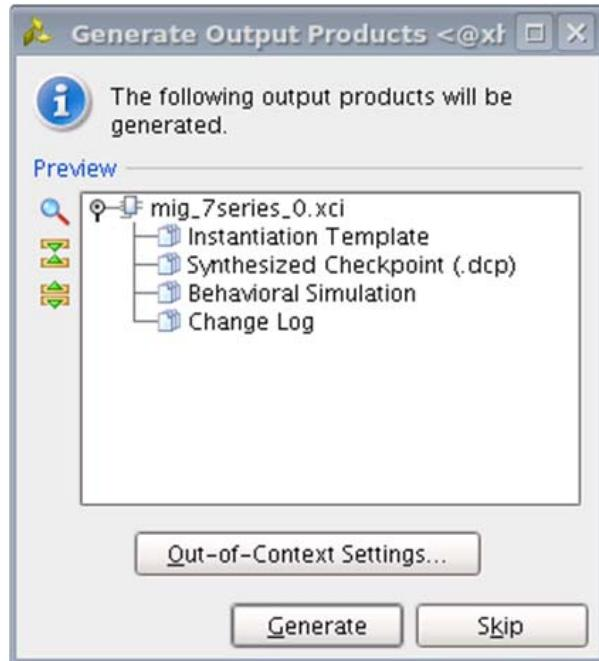

Figure 2-28: Generate Output Products Window
1. After clicking **Generate**, the **Generate Output Products** window appears. This window has the **Out-of-Context Settings** as shown in Figure 2-28.